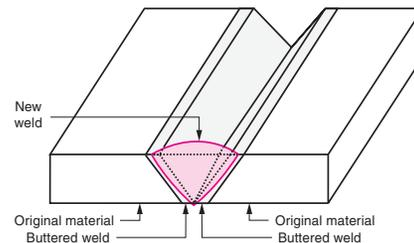

Figure 6-36. Buttering techniques are commonly used to adapt dissimilar metals for welding.
- Joining of dissimilar materials can be done by buttering the face of one material to match the other, as shown in Figure 6-36.